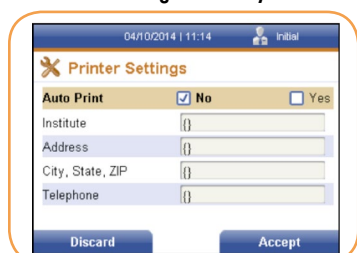

FIGURE 25
2. Press the right soft key to select it. The Printer Settings screen is displayed (Figure 25).